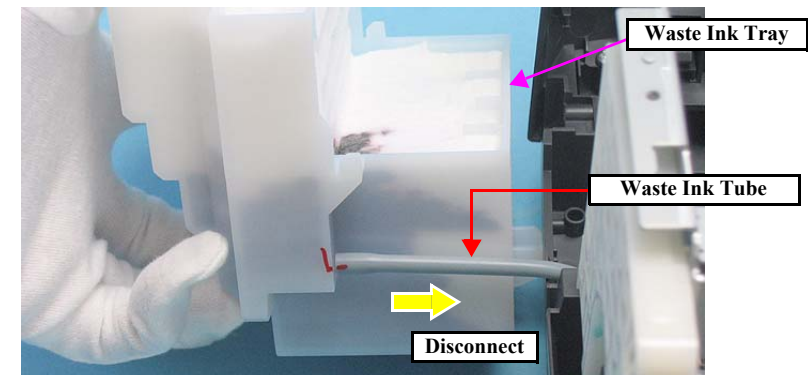

Figure 4-31. Removing the Waste Ink Tray (2)
- The EJ Frame Spring of the EJ Frame Assy is located beneath the Waste Ink Tray. (○ in Fig.4-31 shows the location.) The spring may come off during removing the Waste Ink Tray. If it does, be sure to reattach it as shown below.